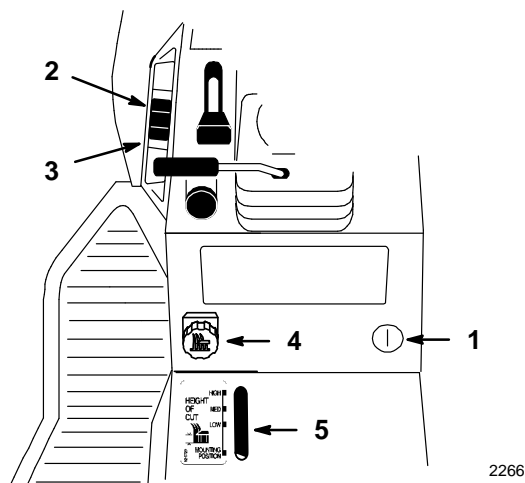

Figure 9
The attachment power lift (optional on some models) (Fig. 9) is used to raise and lower attachments.
1. Turn key to the “ON” or “RUN” position (Fig. 9).
2. Push the lift switch in the “UP” direction to raise the attachment lift (Fig. 9). This will lift and hold the attachment in the up, or raised position.
2. Push the lift switch in the “DOWN” direction to lower the attachment lift (Fig. 9). This will lower the attachment lift.
The Dial-A-Height control (Fig. 9) is used to limit the downward travel of the attachment. The Dial-A-Height knob is rotated to change the location of this stop, up or down.
1. Raise the attachment lift lever: Refer to Raising Attachments. In the raised position the Dial-A-Height knob (Fig. 9) can be rotated to change the stop location. Turn clockwise to raise and counterclockwise to lower the height of the attachment.
2. The Dial-A-Height indicator (Fig. 9) will show the change, high to low, in attachment lift height as adjustment is made.